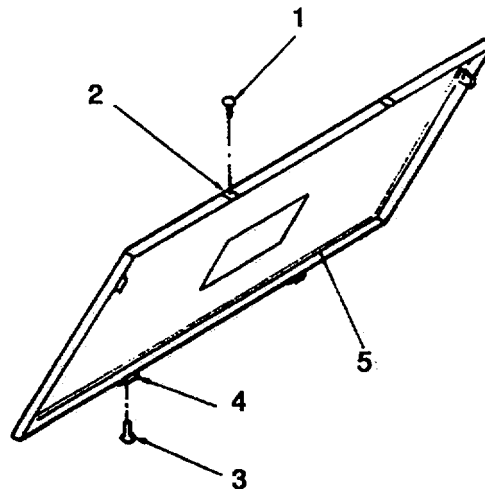

Figure 5-1. Top Cover Assembly.
- a. Drill out four rivets (1, Figure 5-1) and remove two keepers (2).
- b. Drill out four rivets (3) and remove two hinges (4). Remove gasket (5) if damaged and discard.